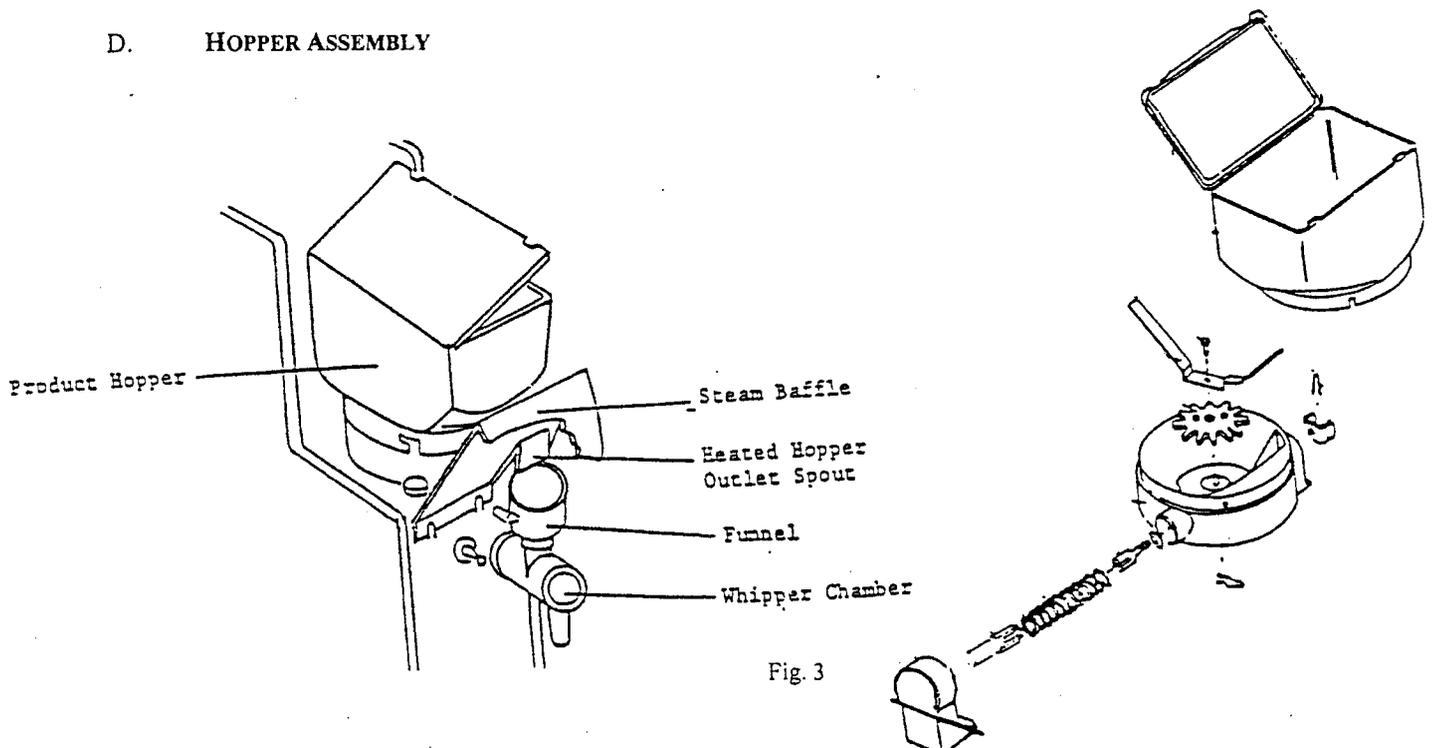

Fig. 3
The Jet Spray Cappuccino product system is self-cleaning. Each time a beverage is dispensed, hot water flushes the water system. However, periodic cleaning of the powder system, and cleaning of the exterior cabinet and components are necessary for satisfactory operation (see to Fig. 3). Proceed as follows:
3. Remove parts as shown in figure 3.